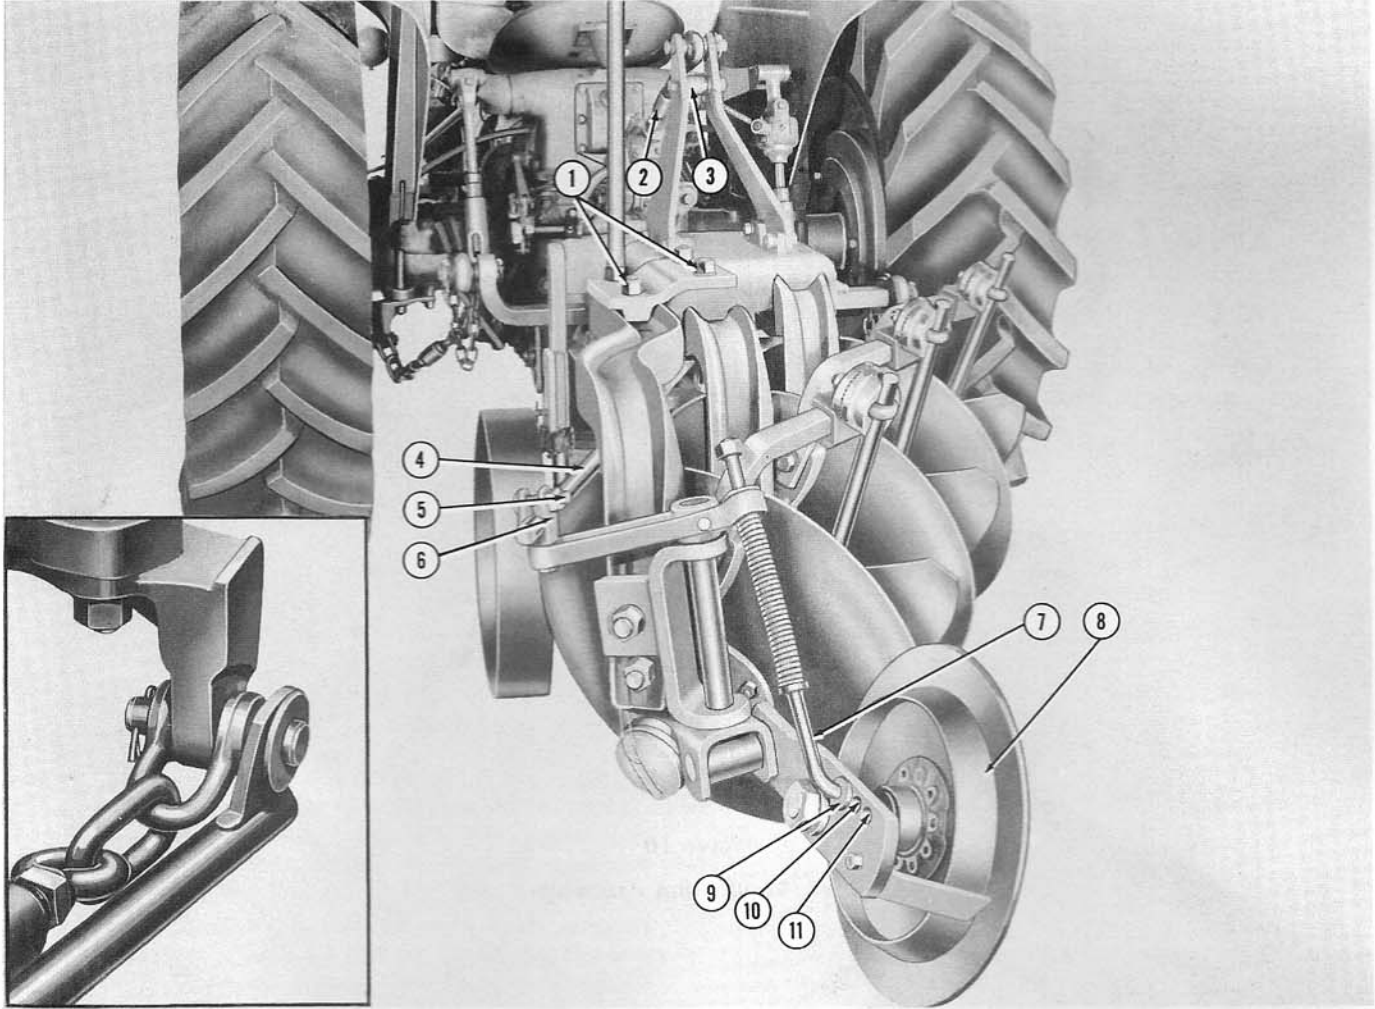

Figure 13
3. Attach the steering arm to the check chain anchor as shown in the insert of Figure 13, and secure with the headed pin and cotter pin provided.
**Leveling the Plow:** The plow should be leveled after making the first cut in a new plowing operation to allow for the fact that the tractor and plow are tilted because the tractor right wheels travel in the furrow. This adjustment is made by turning the tractor leveling crank (3), Figure 13, until the plow is level when the right tractor wheels are in the furrow.
**Top Link:** Under normal, heavy soil conditions, the Fordson Major Diesel Tractor top link (2), Figure 13, should be adjusted to a 26" length. Under certain soil conditions, however, it may be necessary to increase the pressure on the furrow wheel (8), over that obtained by the depth adjusting rod and spring (7), so the plow will follow the tractor in the proper operating position. (See Furrow Wheel Adjustment) When these conditions are encountered, the tractor top link (2) should be lengthened, and the leveling crank should be adjusted, until the desired results are obtained.
**Beam Adjustment:** Under excessively trashy conditions, the second and third beam may be moved rearward to increase the distance between the blades. This adjustment is accomplished by removing the bolts (1), Figure 13, holding the beams. Move the second beam 2" to the rear and move the third beam 4" rearward. Replace the bolts (1), lockwashers and nuts and tighten securely.
**Furrow Wheel Adjustment:** To decrease the width of cut on the front disc, loosen the  $\frac{5}{8}$ " nut (5), Figure 13, on the steering arm clamp (6) and slide the clamp (6) forward in the steering arm (4). Reverse this procedure to increase the width of cut. The depth adjusting rod (7) is provided to vary the pressure on the furrow wheel (8). The depth rod (7) should be placed in the center hole (10) for a normal setting. With the rod in the forward hole (9), pressure is increased on the furrow wheel. Conversely, pressure is decreased in the rear hole (11).